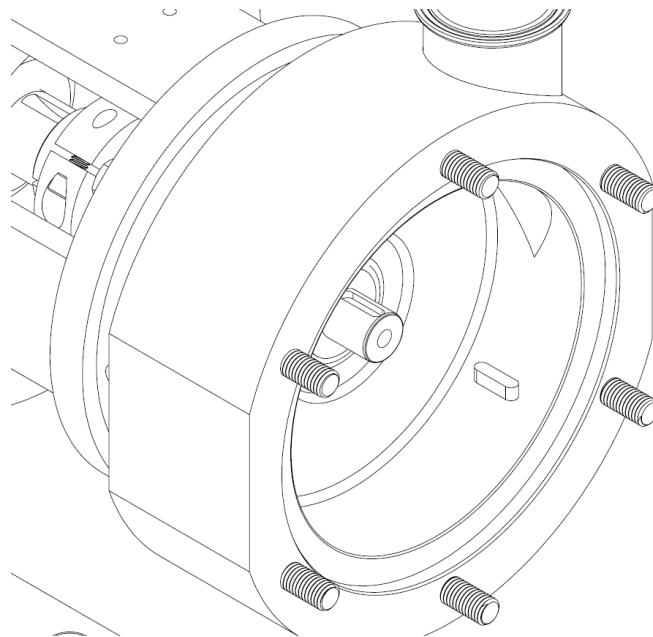

Figure 16
8. Insert key into the keyway in the stub shaft, Figure 16.